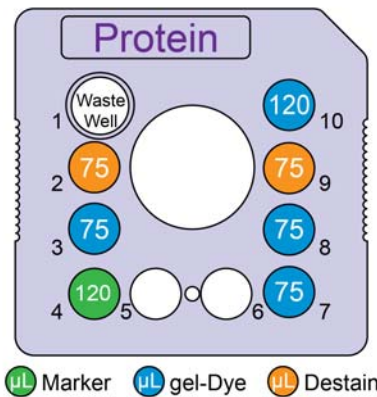
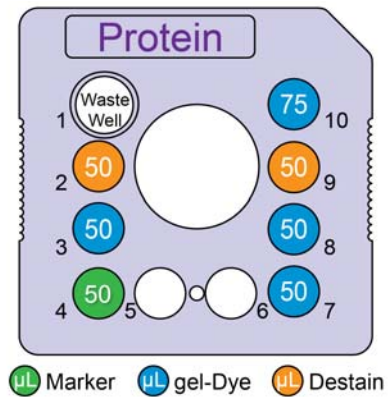

Figure 3. Reagent placement for High-throughput (up to 384 samples)
Figure 4. Reagent placement for Low-throughput (up to 48 samples)
- Using a reverse pipetting technique, add Gel-Dye solution to chip wells 3, 7, 8, and 10 as shown in Figure 3 (High-throughput) or Figure 4 (Low-throughput).
- Using a reverse pipetting technique, add Destain Solution from spin filter tube to chip wells 2 and 9 as shown in Figure 3 (High-throughput) or Figure 4 (Low-throughput).
- 7 Add Protein Express Lower Marker (green cap ●) to chip well 4 as shown in Figure 3 (High-throughput) or Figure 4 (Low-throughput). Make sure the marker volume is pipetted accurately. If there is not enough marker in chip well 4, the marker will deplete and will not be added to subsequent samples on-chip. Data collected without marker peaks cannot be analyzed by the software.